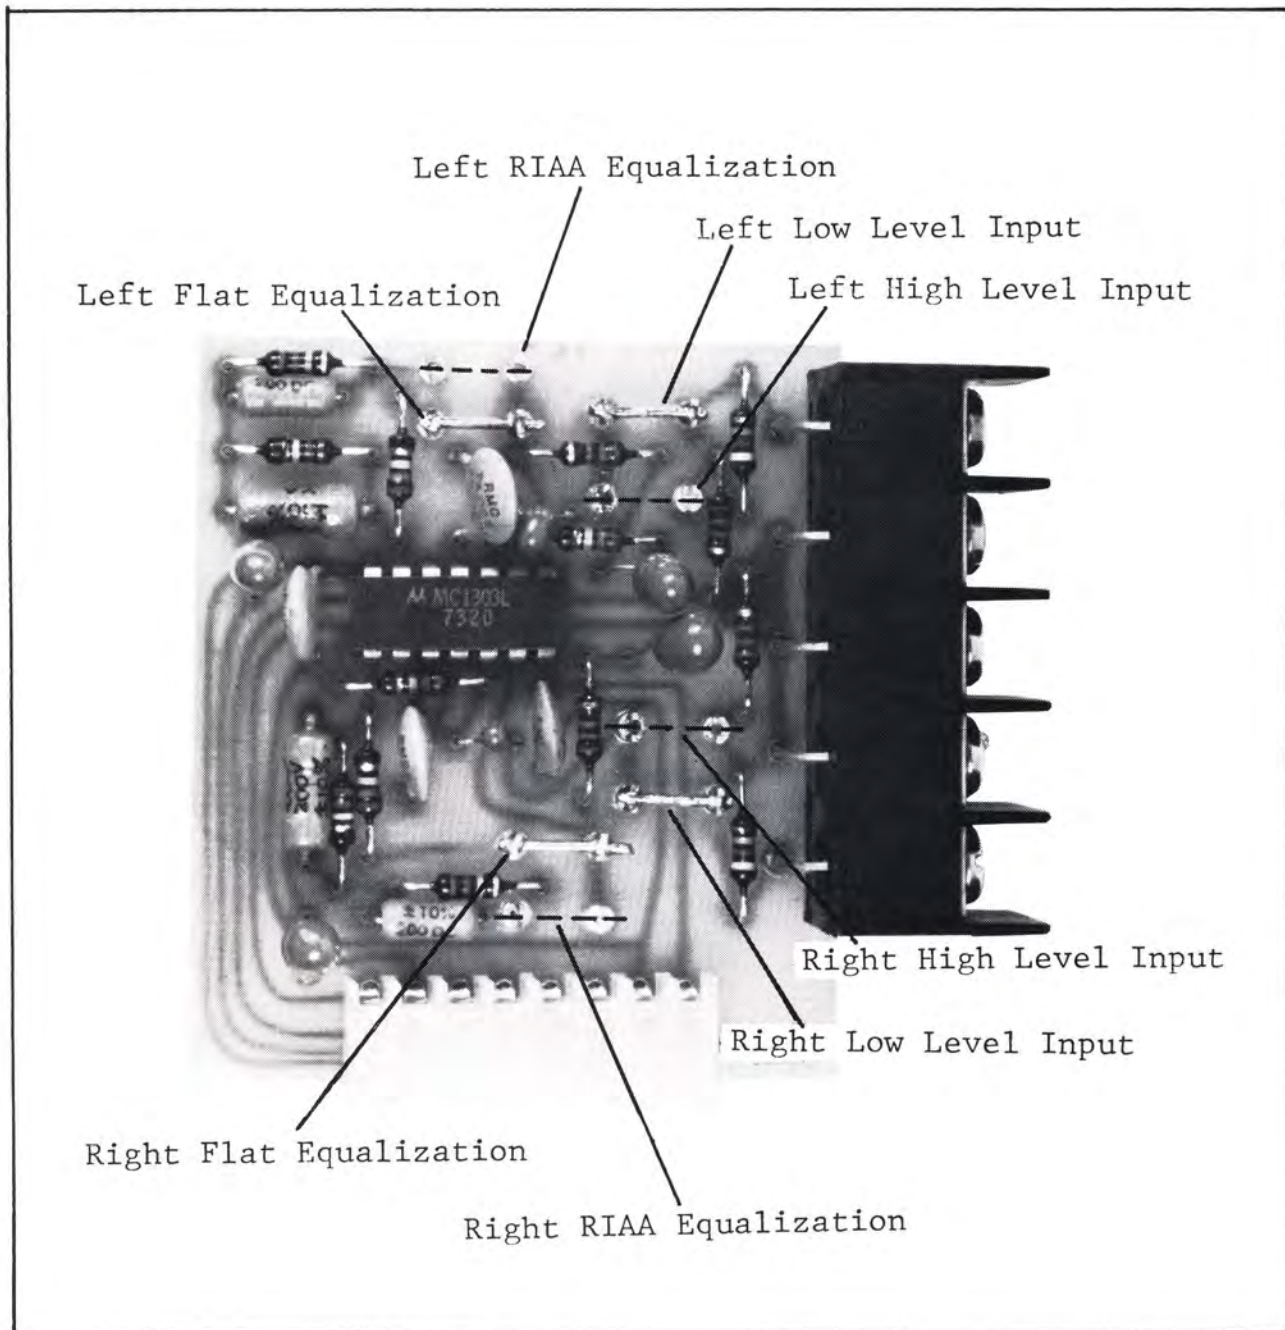

Figure 3-4 Preamp Board Jumpers
- 3-4. Input Attenuation (Fig. 3-4). Located on the preamp PC boards behind the input barrier terminals. Install jumper appropriate to the source level. Set right & left channels alike.
- 3-5. Equalization (Fig. 3-4). Located on the preamp PC Boards next to the preamp I.C.'s. Install the jumper for the desired equalization. Only one jumper should be installed on each channel. One of the jumpers must be installed for the preamps to operate. Set right & left channels alike.